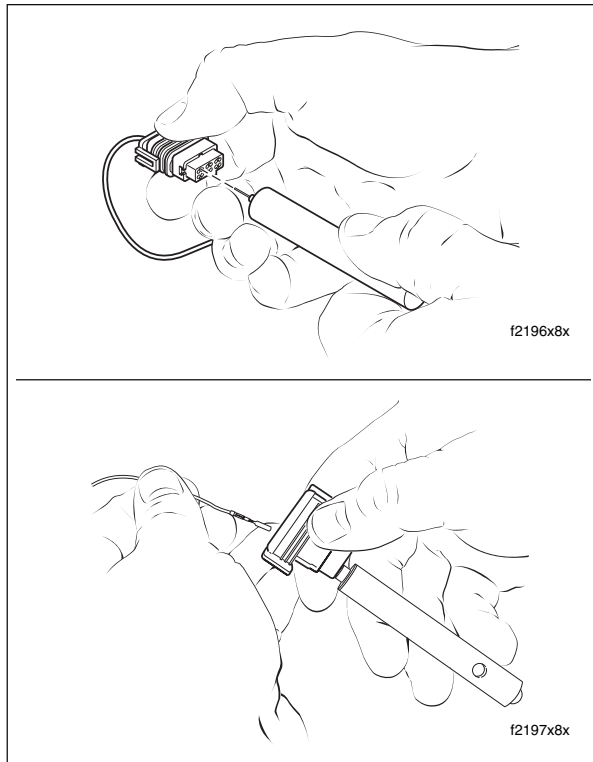

Figure B-28. Insert Tool and Remove Terminal
- b. Push the adjacent terminals all the way into the connector housing and then insert tool into hole until it bottoms. See upper frame of Figure B-28.
- c. Leaving the tool installed, gently tug on wires to pull either one or both terminals from wire end of connector. See lower frame of Figure B-28. Remove tool.